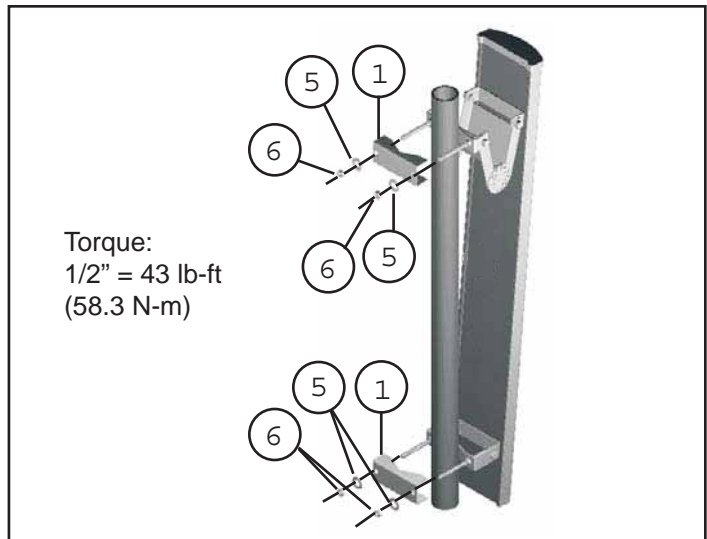

Figure 6. Fastening Pipe Bracket to Pole.
1. Using the pipe mounting brackets (Item 1) and 1/2 inch hardware, properly orient the antenna and mount to a 2.5–4.5 inch (64–115 mm) OD pole (Figure 6).
2. Tighten the 1/2 inch hex nuts (Item 6). Torque to 43 lb-ft (58.3 N-m), so that the brackets firmly hold the antenna to the pipe as shown in Figure 6.
4. Torque all 1/2 inch hardware used in Figure 6 to 43 lb-ft (58.3 N-m).